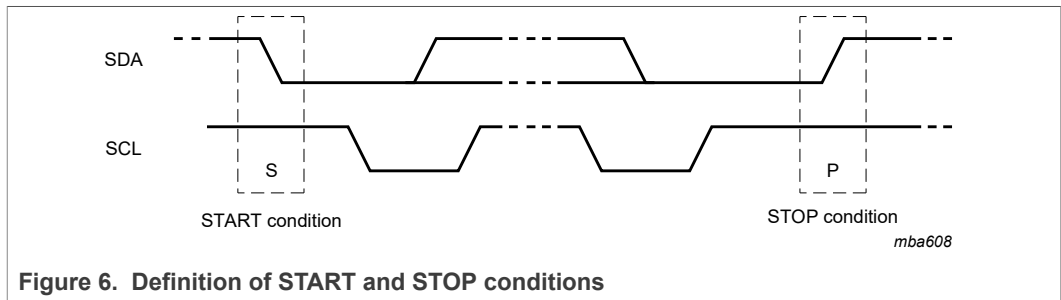

Figure 6. Definition of START and STOP conditions
Both data and clock lines remain HIGH when the bus is not busy. A HIGH-to-LOW transition of the data line while the clock is HIGH is defined as the START condition (S). A LOW-to-HIGH transition of the data line while the clock is HIGH is defined as the STOP condition (P) (see Figure 6.)